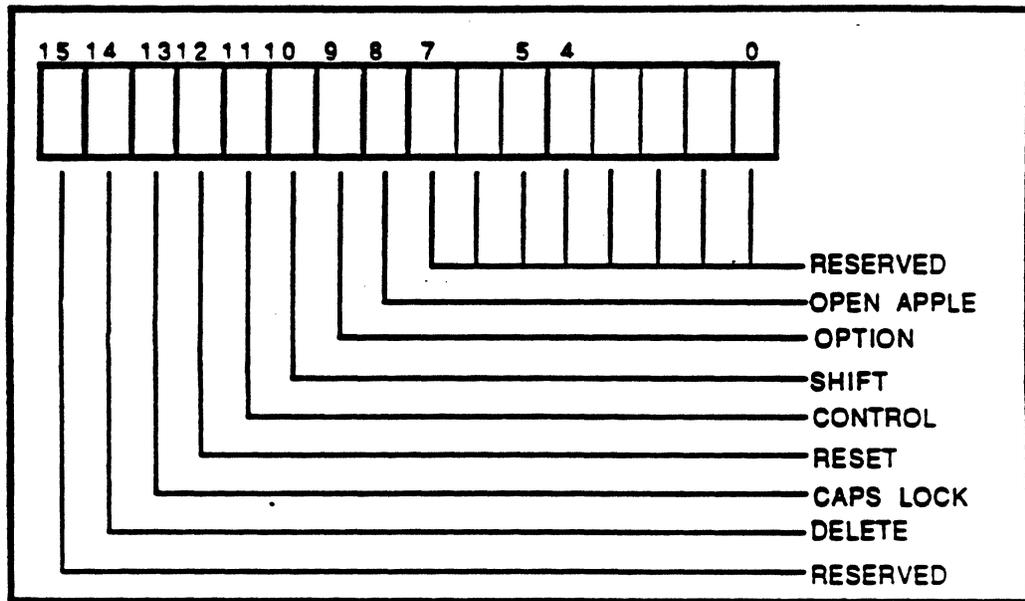

FIGURE 2 KEYBOARD REGISTER 2
6.6 THE STATUS OF THE FOLLOWING KEYS WILL BE INDICATED IN REGISTER 2 PER FIGURE 2
- CAPS LOCK (70)**
- OPEN APPLE (72)**
- OPTION (71)**
- RESET (81)**
- CONTROL (37)**
- DELETE (14)**